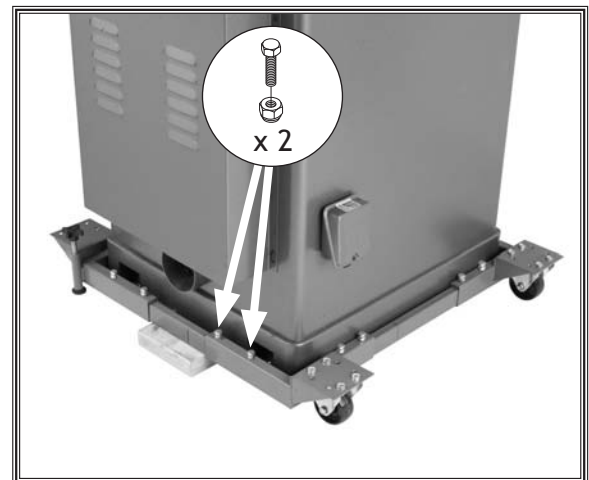

Figure 23. Rear fixed caster assembly secured to side rail (only one side shown).
18. Secure each side with (2) M8-1.25 x 25 hex bolts and 8mm lock nuts, as shown in **Figure 23**.